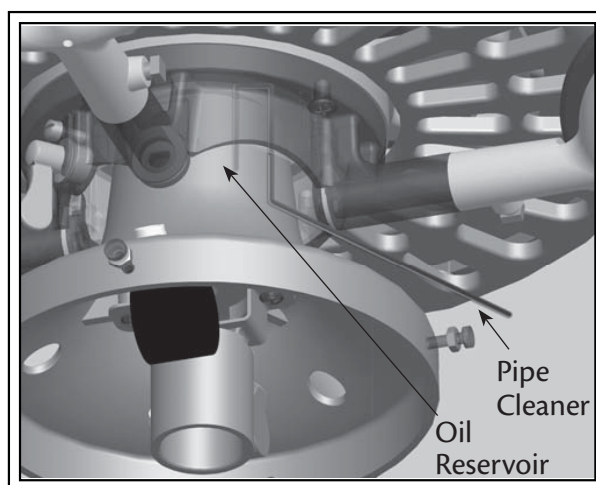

Fig. 13
3. If the oil touches the end of the pipe cleaner, the fan has ample oil. If it does not touch, add SAE 10 non-detergent oil slowly until it touches the pipe cleaner. (see. Fig. 13).